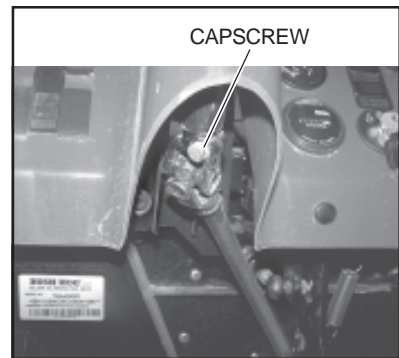

Figure 9
1. Turn the steering wheel for access to the upper steering shaft U-joint capscrew (Figure 9).